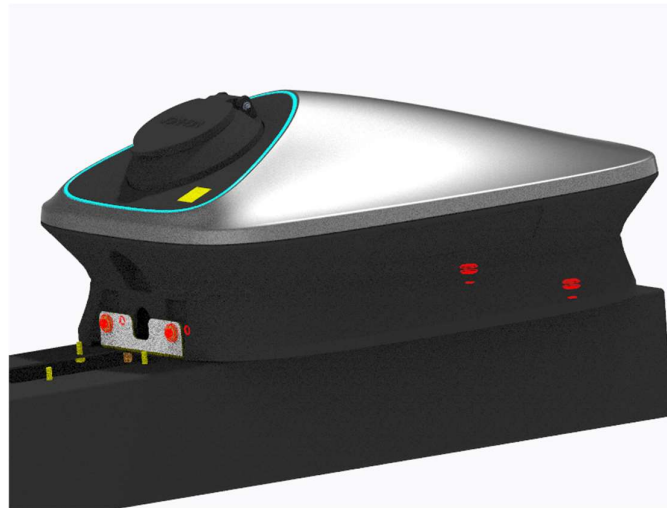

Figure A-20 Charger installation
3. Hang the charging station on the column, screw in two pattern M6*12 (torque: 1.8~2.0 N.M) combination screws at the bottom, as shown in Figure A-20.